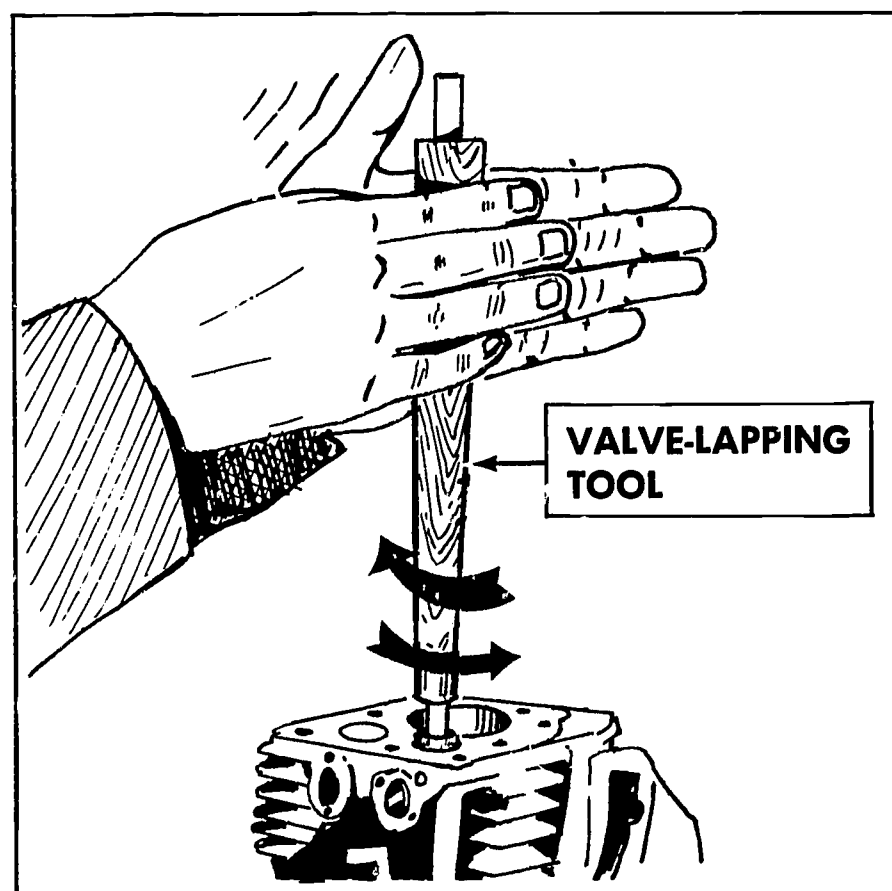

FIGURE 215. Lapping valves.
4. *Rotate valve while applying pressure (Figure 215).*